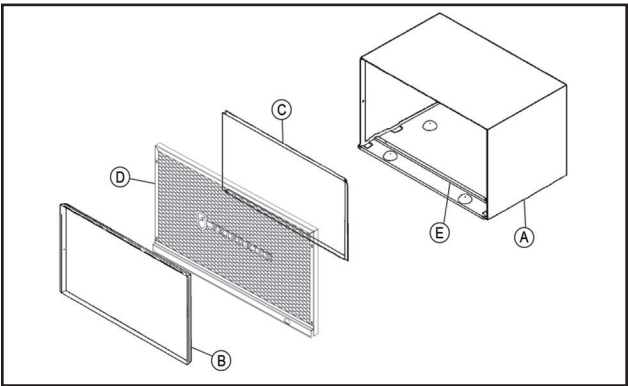

Figure C.4.3
**STEP 1.** After unpacking the USC sleeve from the carton, remove the indoor weather panel. Place the USC sleeve in the wall opening following the instructions given in the Installation Requirements. Attach the sleeve to the inside wall by driving two #12A x 2" screws in each side of the sleeve (see Figure C.4.3). Shim at the top of the sleeve, midway between the sides. Drive one #12A x 2" screw in the top of the sleeve. If the wall opening is not framed with wood, use expansion anchor bolts or molly (toggle) bolts (not provided).